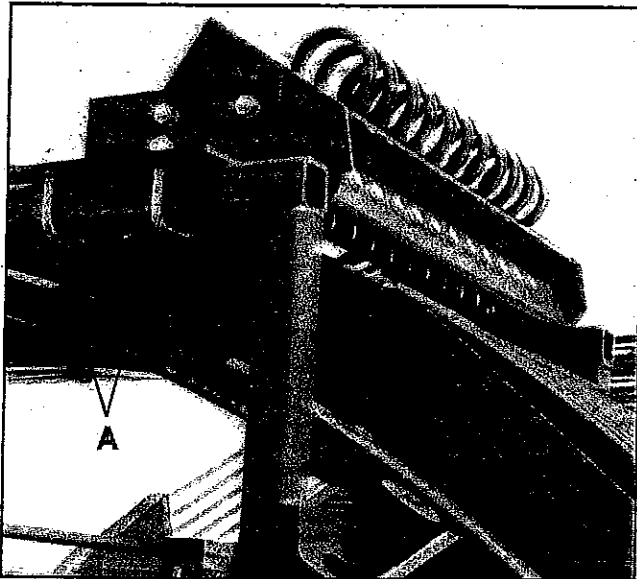

FIGURE 54 - STRIPPER INSTALLATION
Install mounting angles 2-1/2" from rear edge of support frame. Lift the stripper into its position and attach with four (4) 1/2" U-bolts bolts (A), eight (8) 1/2" flat washers and eight (8) 1/2" hex nuts as shown (see Figure 54).
Turn the wheel elevator through one or two complete revolutions and slide stripper supports right or left to eliminate interference (see Figure 54).